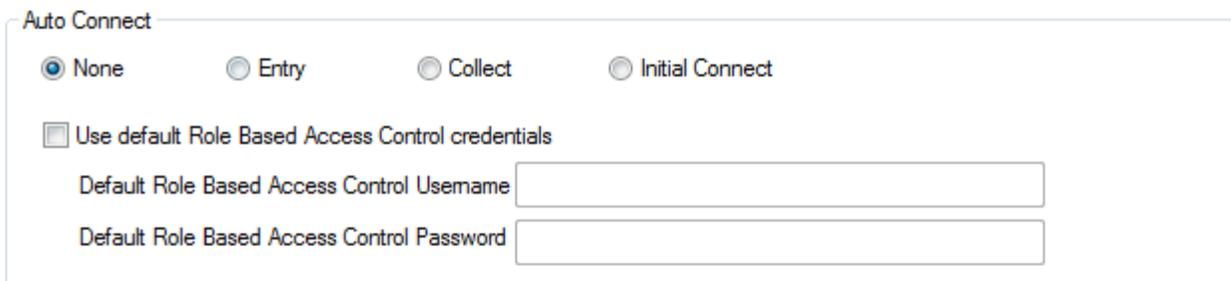

Figure 54: System Setup Auto Connect and RBAC credentials
- a. Check **Use default Role Based Access Control credentials** (Figure 54):